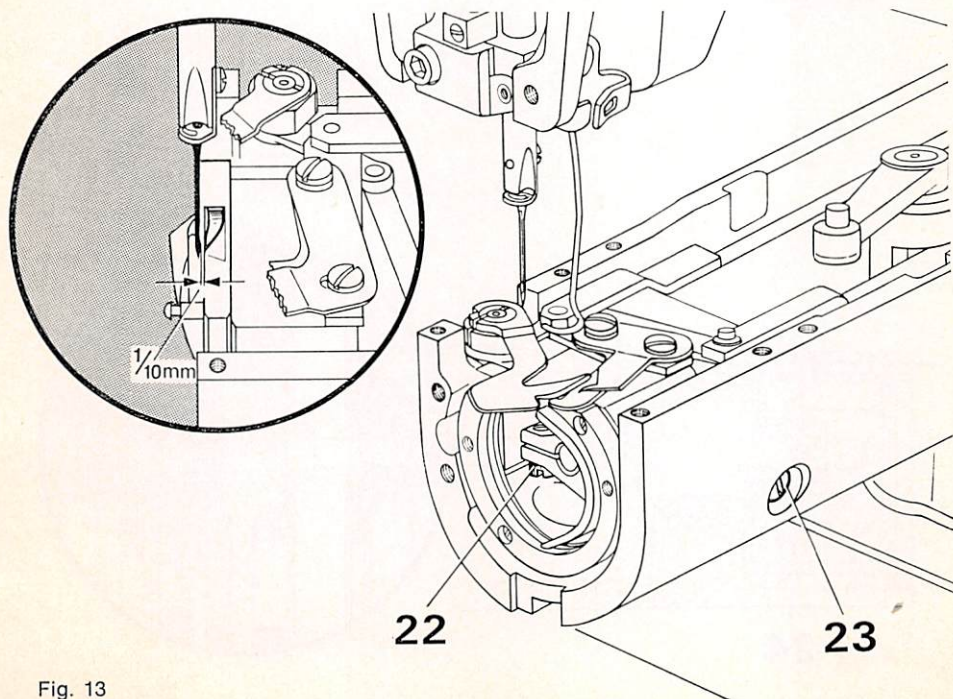

Fig. 13
**13. Setting the shuttle to the needle (Fig. 13)**
- 13.5. In this position, move the shuttle driver shaft bearing together with the shuttle race lengthwise of the cylinder bed until there is a clearance of 0.1 mm (0.004") between the point of the shuttle and the needle (see encircled view of Fig. 13).